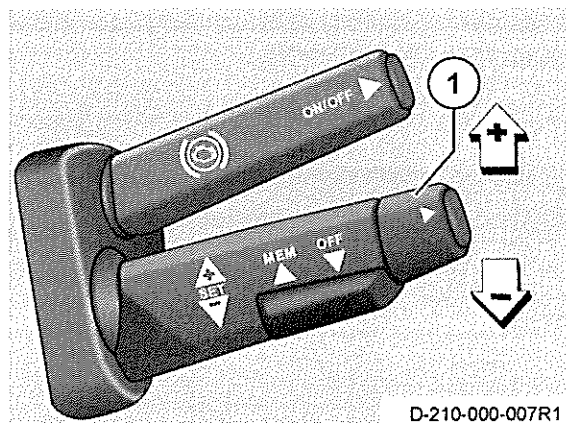

Fig 22 Steering column stalk
103 Refer to Fig 22. The cruise control (Road Speed Governor (RSG))/Road Speed Limiter (RSL) steering column stalk (1) operates as follows: